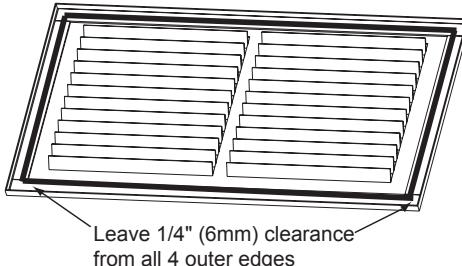

Figure 3.20
- Seal all the way around the inside of the return air grille to prevent hot air being drawn back into the venting system using gasketing supplied with the kit. Leave 1/4 in. (6 mm) clearance from all four outer edges. Trim excess gasketing. See Figure 3.20.